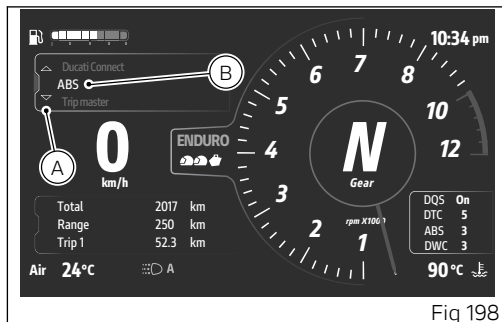

Fig 198
- Select the Interactive Menu (A, Fig 198) by pressing and holding the joystick in position ▲ for a long time.
- Use the joystick ▲ ▼ to select "ABS" (B, Fig 198) and press ENTER.